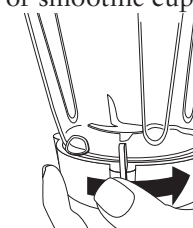

Fig4
4. Install the Integrated Blade Assembly onto the Jar. Turn clockwise to tighten. Be sure the Integrated Blade Assembly is tightened to the jar before using. **NOTE:** For proper installation onto Blender Motor base, make sure locking lever rotates past the anti-rotation tabs on the Blender jar or smoothie cup. See (Fig4).